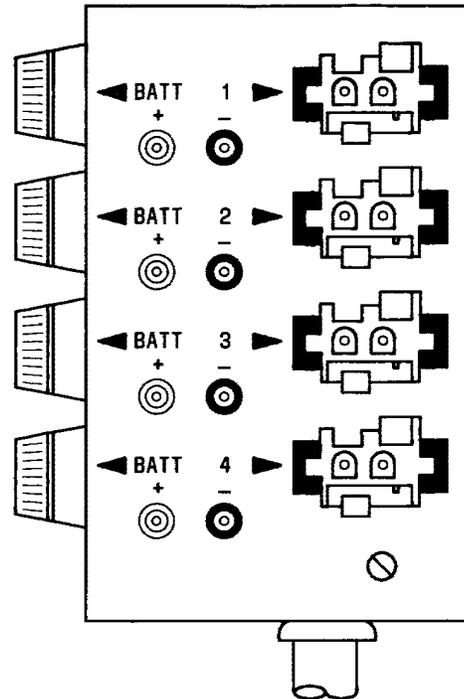

Fig. 3—197A Battery Load Test Set Connector Head
4.01 The 197A battery load test set has a test cord with a connector head assembly which terminates into four test plugs, four fuses, and four test jacks as shown in Fig. 3. The test plugs on the test cord match with the KS-21906, L4, battery plugs.